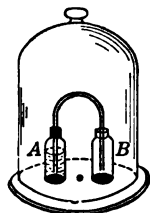

FIG. 67. — Bacchus' experiment.
4. Two small bottles are placed under a bell-jar. See Fig. 67. *A* is *partly* full of liquid and is tightly stoppered. When the air is pumped out of the bell-jar the liquid flows through the bent tube into *B*. When the air is again permitted to enter the jar, the liquid flows back into *A*. Explain. Repeat the experiment, having *A* full of liquid.